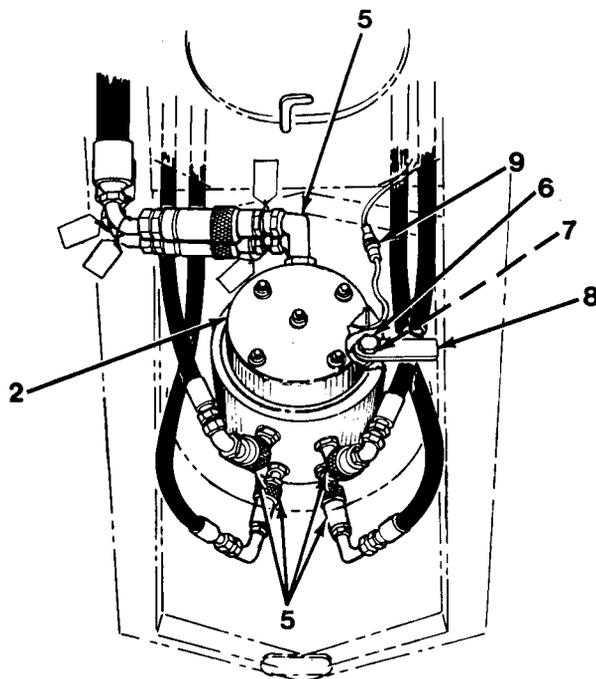

Figure 18-2
7. Disconnect six hoses and remove six quick disconnects and elbows (5) from side of manifold (2, Figure 18-2).
8. Remove stop pin (6) and lockwasher (7) from ear (8) attached to side of upperstructure.